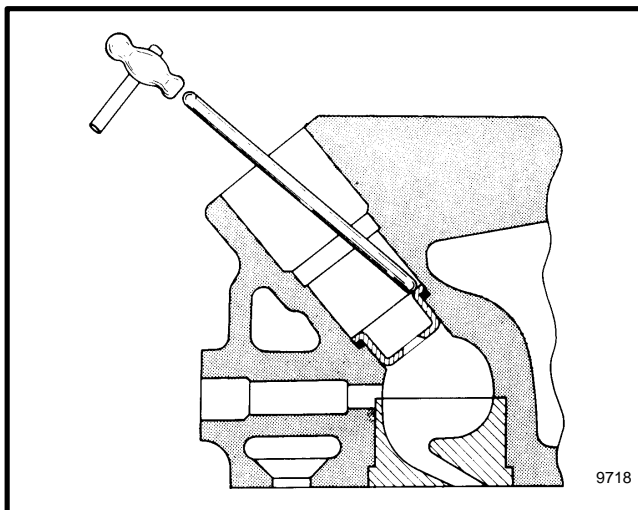

FIGURE 16. HEAT SHIELD, INSTALLATION
4. Install a new heat shield as shown in FIGURE 16.